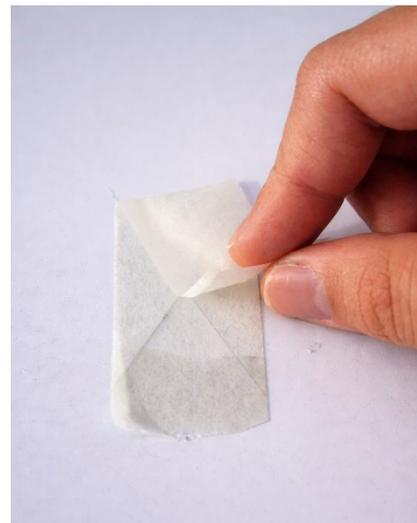

Figure 1b
4. Wait about 60 seconds, then pull the tape off quickly but smoothly, folding it back over itself at roughly 180-degree angle (Figure 1b).